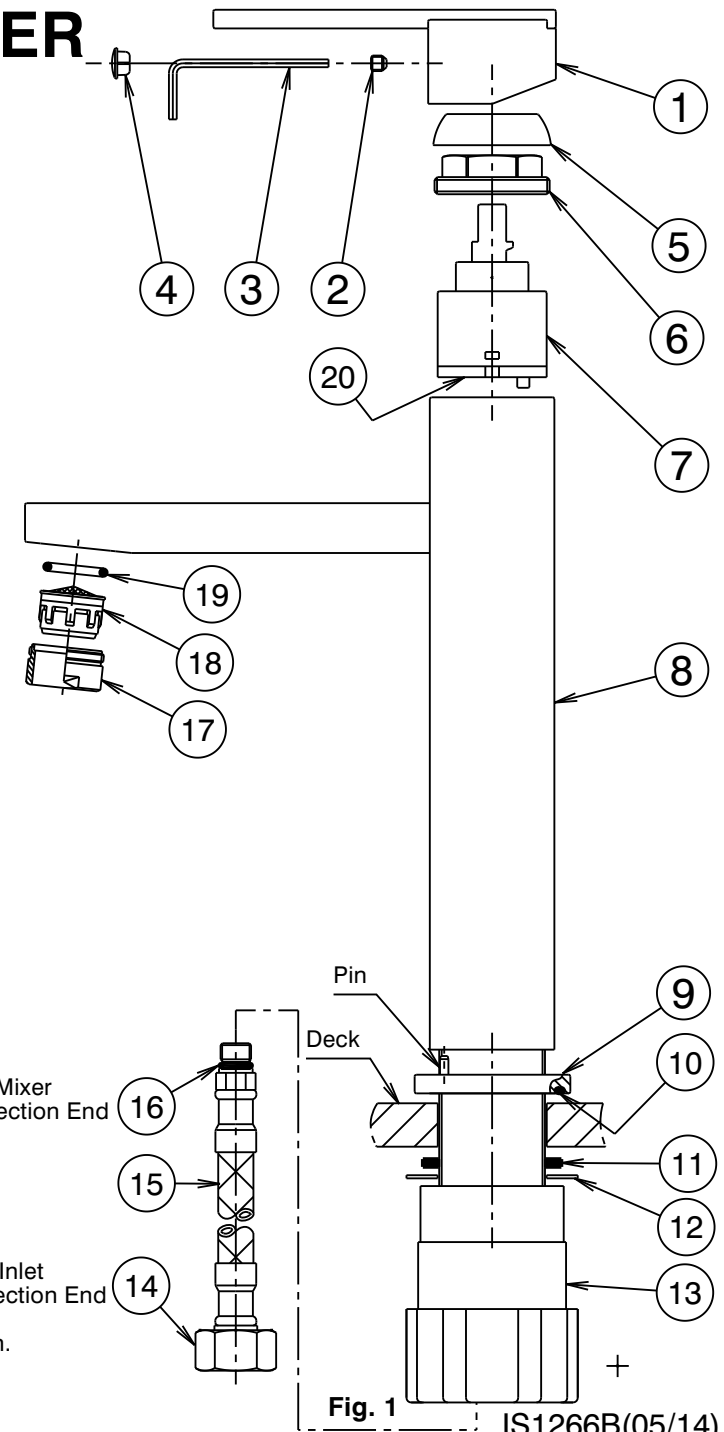

Fig. 1 IS1266B(05/14)
- 1) From fixing pack fit 'O'ring (10) into groove in base ring (9). Locate pins in base ring (9) into holes in base of mixer body (8).
- 2) *Flexible Tail Mixer Connections:* Apply suitable lubricant to 'O'rings (16). Fit flexible tail (15) (with red indication) into inlet fitting marked with a Red Dot in underside of mixer body (8). Hand tighten the tail, ensuring the 'O'ring (16) has fully entered the sealing bore to provide a watertight joint. Fit other flexible tail (with blue indication) into remaining fitting in a similar manner.
- 3) Insert the inlet connection end (14) of each flexible tail (15) through the hole in the deck. Insert threaded tail of mixer (8) into deck hole, fit rubber washer (11), followed by metal washer (12), over the threaded tail of the mixer (8) as shown (Fig. 1). Screw on nut (13) and tighten firmly by hand to secure the mixer to the deck.
- 4) *Flexible Tail Inlet Connections:* Connect the flexible tails (15) to the hot and cold isolating stop taps, hand tighten the connecting nut (14) until rubber cone contacts the sealing face of the connection end, then tighten a further one turn to provide a watertight joint. **Important:** Flexible tails must not be kinked, twisted or in tension when installed. (Minimum Bend Radius:- 50mm) Do not install flexible tails where subject to ultra violet light.